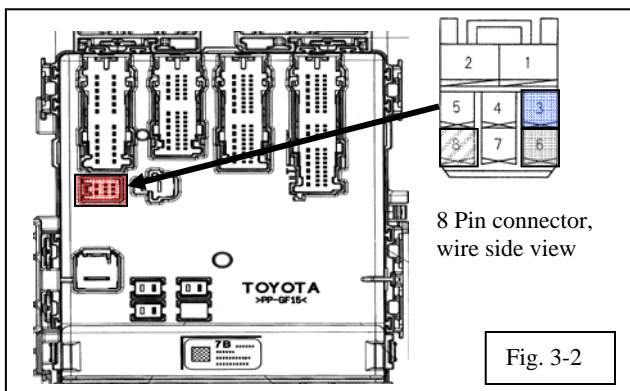

Fig. 3-2
- (b) Locate and disconnect the 8 pin connector on the junction block. (Fig. 3-2)